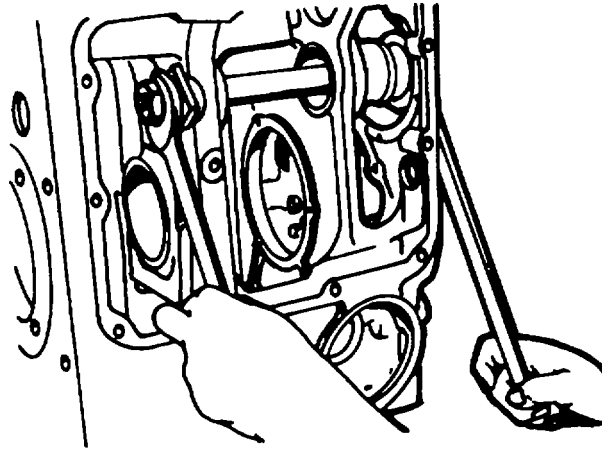

Figure 5-79. Removal/Reinstallation of Bearing Bushing
9. Press in the bearing bushing from the front side; do not permit it to get out of square (use removing and replace tool No. 003-0433). Figure 5-79 shows the installation of the bearing bushing.